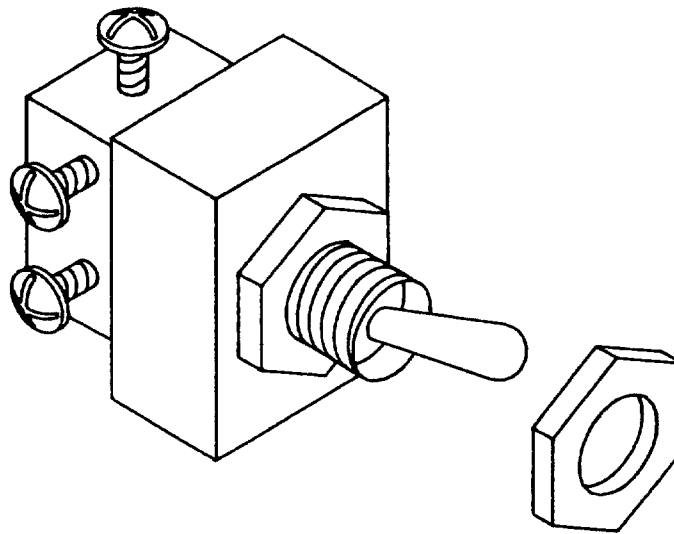

Figure 6-14. Toggle Switch
See figure 6-14 for a detailed view.
- Remove front bushing from toggle switch (see figure 6-14). Retain nameplate if applicable.